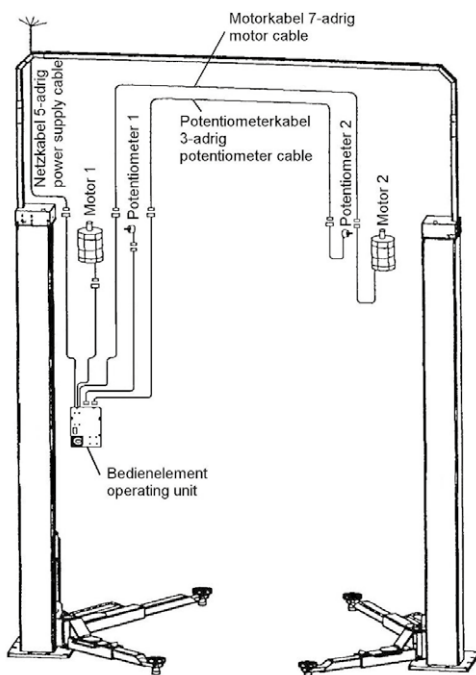

Figure 23: Cable path when using risers and cross-pipes
- Place the cable according to the drawing (Figure 23) into the riser and cross-pipe of the lift and feed together into the corresponding plug. Pay particular attention for safe contacting of the plug connections.